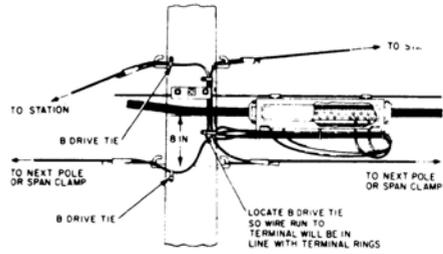

Fig. 5 —Running Drop Wires to 61-Type Terminal
3.09 Refer to Fig. 5 for a typical arrangement of drop wires at a 61-type terminal.